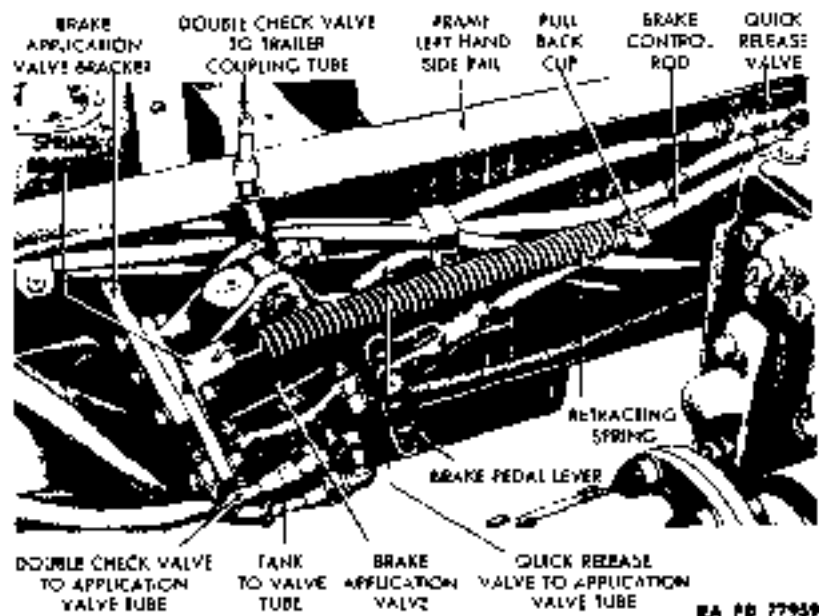

Figure 66 — Brake Application Valve Installed
(1) **DESCRIPTION** (fig. 66). The brake application valve is mounted on a bracket on inside of main frame left-hand side rail under front edge of frame platform, and is connected by a rod to the brake pedal. When pedal is depressed, the valve admits air to brake diaphragm chambers to operate brakes. When pedal is released, the valve exhausts pressure from brake diaphragm chambers to release brakes. Amount of pressure built up or exhausted is in direct proportion to amount of pedal travel.
b. Removal (fig. 66).
(1) DETACH BRAKE CONTROL ROD. Snap retracting spring from pull-back clip on brake control rod and from bracket on valve. Remove cotter pin, flat washer, and clevis pin which attach rod to valve.
(2) DISCONNECT AIR LINES. Disconnect all three air tubes from fittings on valve.
(3) DETACH VALVE FROM BRACKET. Remove all four nuts, lock washers, and bolts which attach valve to bracket. Lift valve and spring bracket from valve bracket.
c. Installation (fig. 66).
(1) ATTACH VALVE TO BRACKET. Position valve on bracket, and install the four bolts, lock washers, and nuts which attach valve to bracket. Place spring bracket under nut and washer on top right bolt.
(2) CONNECT AIR LINES. Connect double check valve to application valve tube to fitting on right-hand side of valve. Connect tank to valve tube to fitting on bottom of valve. Connect quick release valve to application valve tube to fitting on left side of valve.